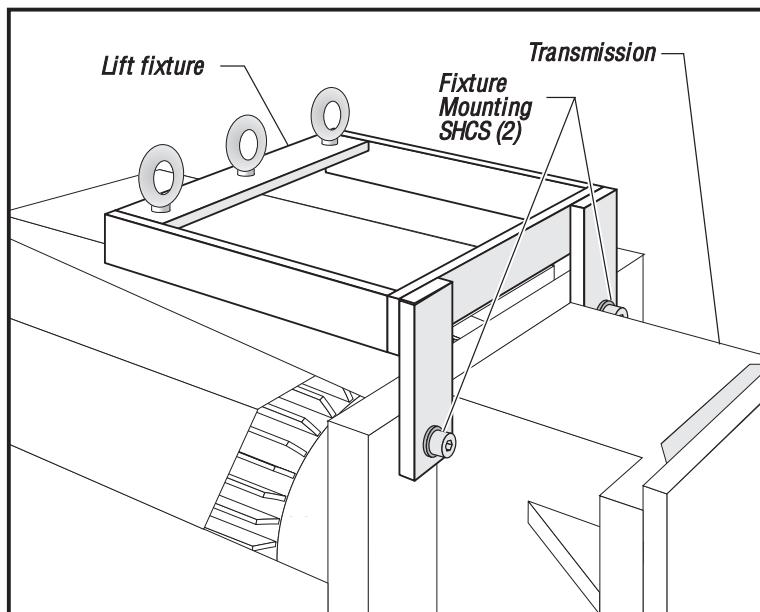

Figure 7-1. Transmission lift fixture.
13. Place the lift fixture onto the transmission (Figure 7-1). Attach to the motor mounting plate with two SHCS (1/2-13 x 1-1/4).